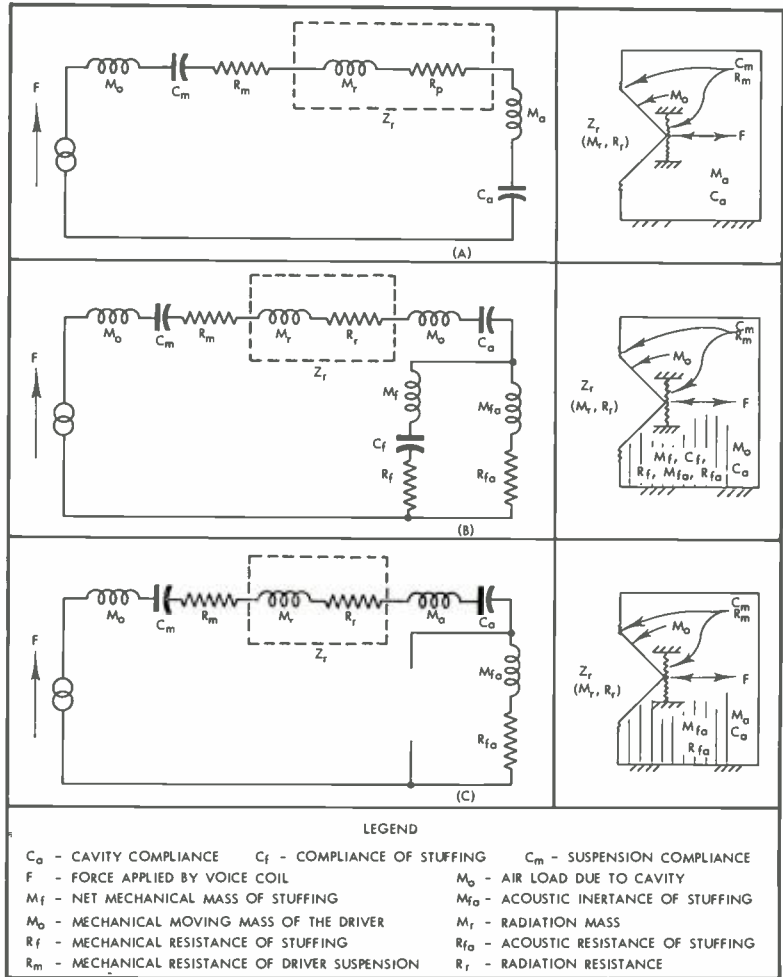

Fig. 3. Equivalent circuits: (A) unstuffed cavity, (B) stuffing placed in cavity loosely, and (C) stuffing placed in holding frame in cavity.
A series of experiments was carried out to determine the degree to which the air spring behind the driver cone can be made isothermal. Before discussing this investigation a rationale of the impedance type equivalent circuits of Fig. 3 must be made. All discussion and experimental results will be presented in mechanical terminology; that is, all impedances, potentials, and currents will be reflected into the mechanical network and characterized by forces, lineal displacements and velocities.
In Fig. 3, (A) shows the well known series representation of a closed-box direct-radiator loudspeaker system with nothing but air in the cavity. The radiation air load (on the front of the piston) is shown as a mass in series with a resistance.
An element not too often included in the impedance of the air cavity is  $M_a$ , the air load mass on the rear of the piston. This element appears in series with the cavity compliance,  $C_a$ , and is well behaved where  $C_a$  itself is well behaved, namely where the wavelengths are equal to or greater than about eight times the nominal box dimension. With the box dimensions and frequency range used in the experiments, the wavelengths were approximately 22 to 50 times the box dimensions, making the cavity well behaved, indeed. Since the impedance analogy as shown for the case of (A) in Fig. 3 is well accepted no further discussion of it is necessary.
The equivalent circuit representation of the much more complicated case wherein fiberglass stuffing is used to fill the cavity is shown at (B) in Fig. 3. This case is not quite so simple as it might seem at first glance.